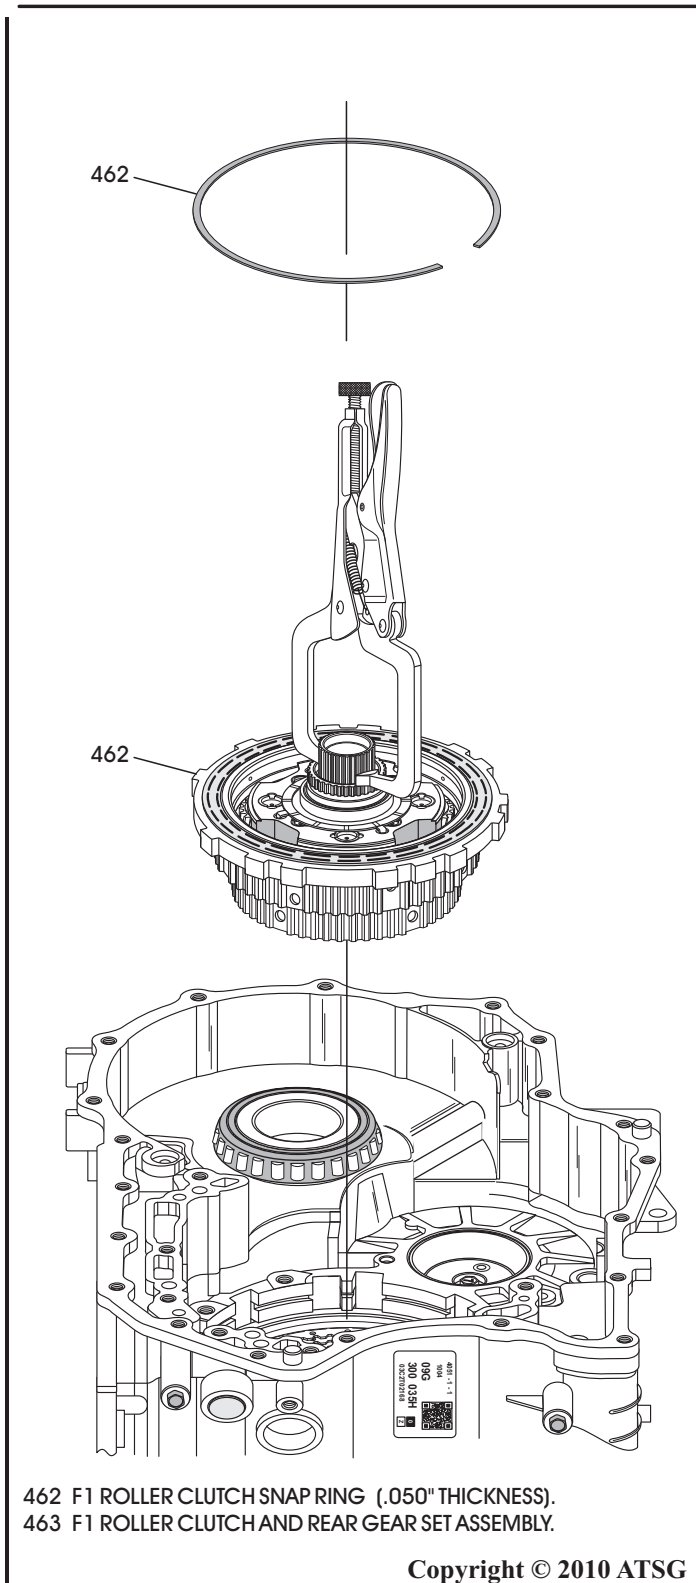

Figure 82
2. Remove the snap ring retaining F1 roller clutch, as shown in Figure 82.
63. Carefully install the style of vice-grips that are shown in Figure 82, to the splines of the small sun gear.
64. Use the vice-grips as a handle to remove the F1 roller clutch and rear planetary gear-set as an assembly, as shown in Figure 82, and set aside for the component rebuild section.